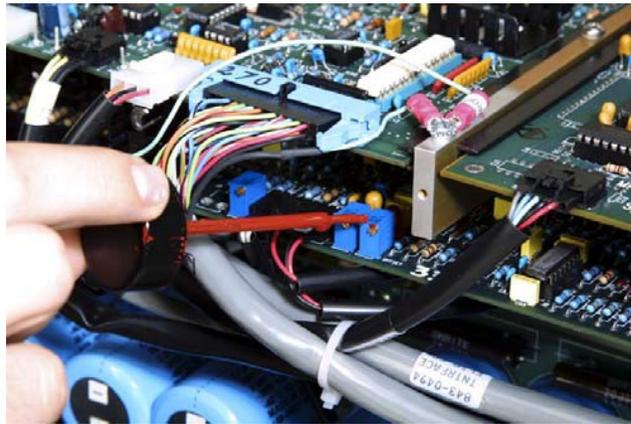

Fig. 7 Use Glyptol to seal three (3) trimpot.
- 3.1.9 Remove all Meter leads from Test Points in CobraTig150. Use Glyptol to seal the trimpot settings when done. (Figure 7)